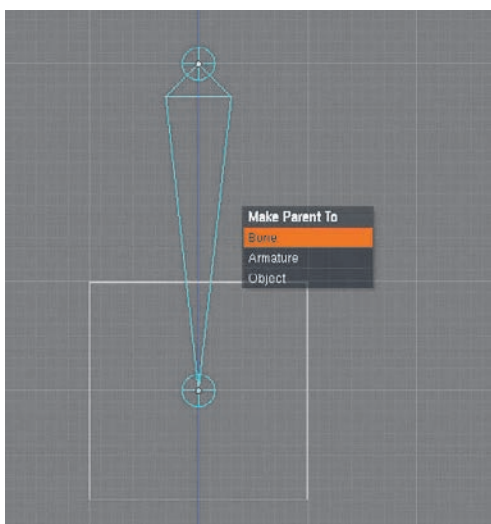

Figure 6.32 Bone-parent the cube.
3. Bone-parent the cube to the bone. To do this, select the armature in Object mode and change to Pose mode. Select the cube (you will return to Object mode automatically). Hold down the Shift key and select the armature so that both the Cube object and the armature are selected in Pose mode, as shown in Figure 6.32. Press Ctrl+P and select Bone.